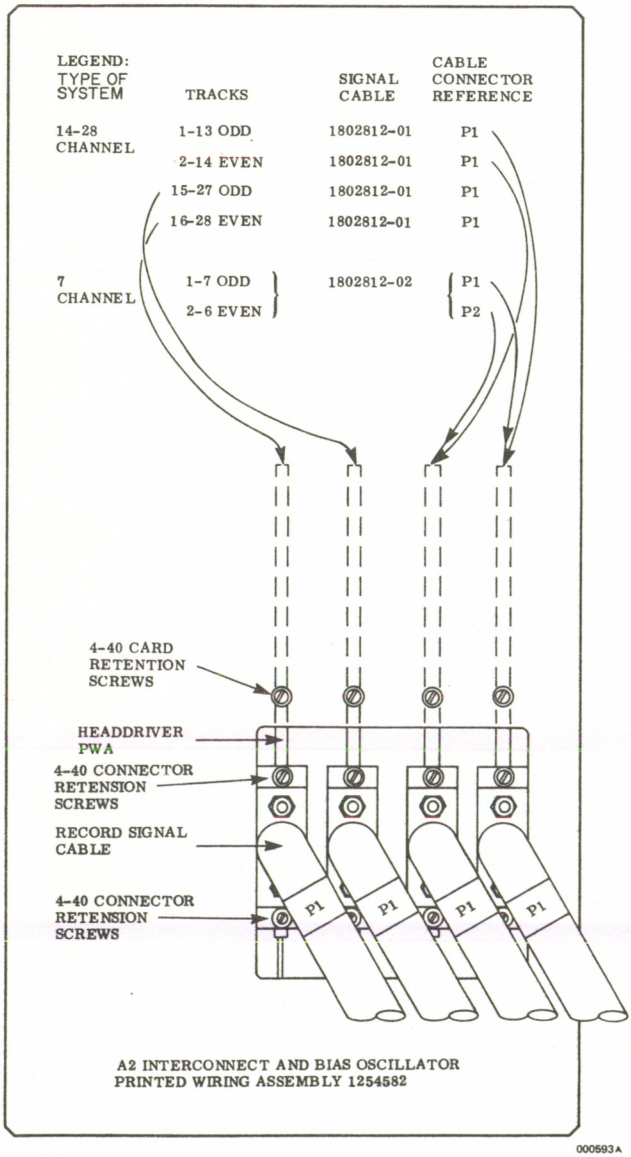

Figure 10-4. Headdriver Housing Mother PWA -Showing PWA and Cable Connector Securing Screws
- b. Tag the record signal cables to the headdriver pwa's. (All of the cables in a 14 or 28 channel system are marked P1 as shown in Figure 10-4.)
- e. Remove the 4-40 card retention screw from each headdriver pwa. See Figure 10-4.
Refer to Figures 10-4, 10-5 and 10-6. To reassemble the headdriver housing assembly, proceed as follows:
- g. Replace the headdriver pwa's and secure to the mother board with the 4-40 card retention screws. See Figure 10-4.